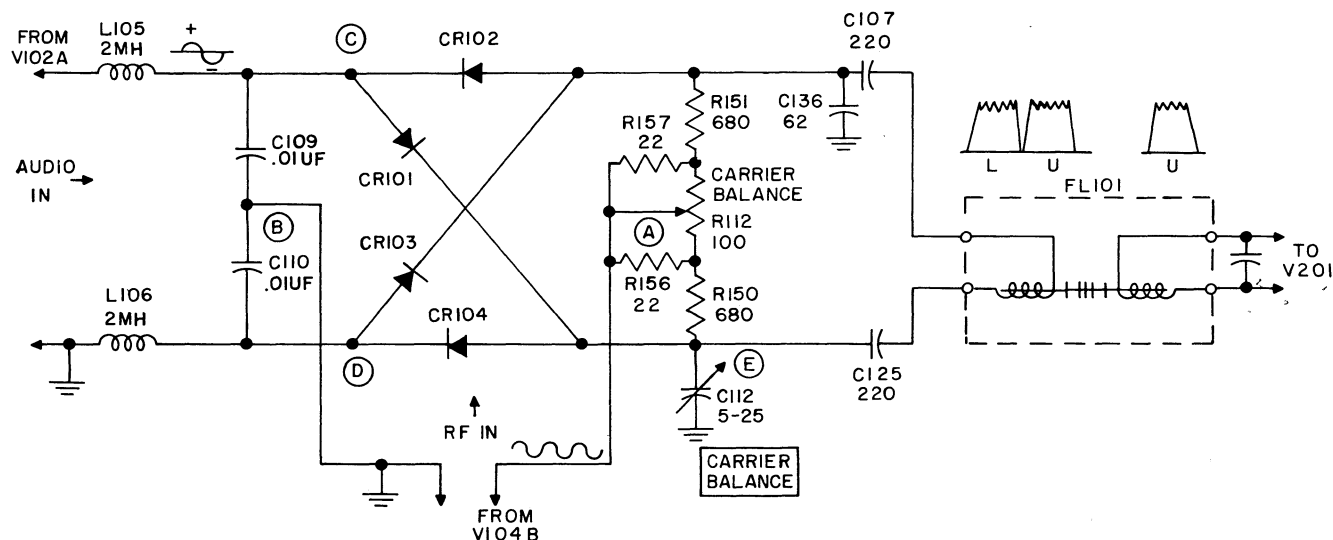
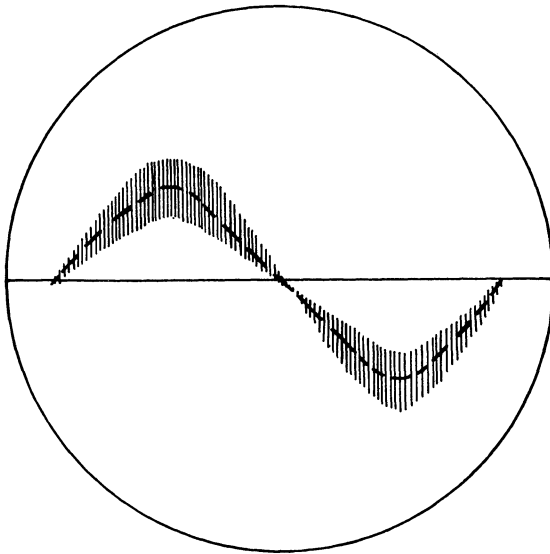

Figure 4-4. Balanced Modulator and FL101 Mechanical Filter, Simplified Schematic Diagram
Figure 4-5. Balanced Modulator Output,
(1) LFO. For the development of single sideband signals, the 250-kc output of V104A is coupled through condenser C130 into the grid of the 250-kc amplifier, V104B. The output of V104B is coupled from the cathode through C128 to point (A), and from the ground to point (B) of the balanced modulator, to provide an r-f input to the modulator. (See figure 4-4.)
(2) BALANCED MODULATOR. The balanced modulator is a "ring type" modulator. It receives two signal inputs, the 250-kc carrier signal at points (A) and (B) in figure 4-4, and the audio signal at points (C) and (D). The purpose of the modulator is to suppress the carrier frequency, and to pass only the upper and lower sideband frequencies resulting from modulation by the impressed audio. As shown by the component values, the modulator is a low impedance unit with two points of "balance" adjustment at points (A) and (E) in figure 4-4. R112 is adjusted for voltage balance, and C112 for capacity balance of the 250-kc r-f voltages applied.
Although the ring is balanced insofar as the r-f carrier voltage is concerned, the audio input essentially "modulates" the carrier by causing unbalance of the ring voltages at an audio rate, relative to the positive and negative alternations of the audio cycles. Thus, on one audio alternation, for example, the CR101 plate is biased positive, causing its impedance to be lowered, while the CR102 cathode is biased positive, causing its impedance to be increased. On the following alternation, the impedance unbalance is the opposite. Thus, the carrier is "modulated" to produce two sidebands, but the carrier is suppressed by the ring balancing action. Assuming a 1000 cps audio note, the modulator output at the input of FL101 would be sideband frequencies of 249 kc and 251 kc, with the 250 kc carrier suppressed. (See figure 4-4.) R112 is adjusted to balance the inherent variations in R150 and R151.
Although figure 4-4 shows the modulator output in a practical "U and L" manner, the actual output waveform, when viewed on an oscilloscope, would be similar to figure 4-5, representing the 249-kc and 251-kc sideband signal plus the audio of the example stated in the preceding paragraph.
Within the filter, a nickel wire in the input transducer coil vibrates mechanically and transmits this energy to the first of a series of nickel alloy discs. The mechanical vibration of the first disc is coupled to succeeding discs by means of nickel-wire coupling elements. Biasing magnets at either end of the filter polarize the filter elements to prevent frequency doubling in much the same manner as biasing magnets in a headphone prevent the phone diaphragm from bending the same direction for both alternations of an a-c cycle. The mechanical vibration of the last disc is coupled to a magnetostriction transducer element identical to the one used at the input of the filter. By a reverse principle of magnetostriction, the mechanical vibrations of the nickel-wire transducer core is converted to electrical impulses. Each of the discs used has a mechanically resonant "Q" exceeding 2000. Six of the discs are overcoupled to produce a mechanically-shaped response curve with a flat top and almost vertical sides. Thus the filter passes a band of frequencies very little wider than the flat top of the selectivity curve. In the case of FL101 Mechanical Filter, this band of frequencies is approximately 3 kc wide and centers on 250 kcs. Figure 4-4 shows a practical example of the FL101 Mechanical Filter output wave containing all the USB frequencies however, on an oscilloscope, the